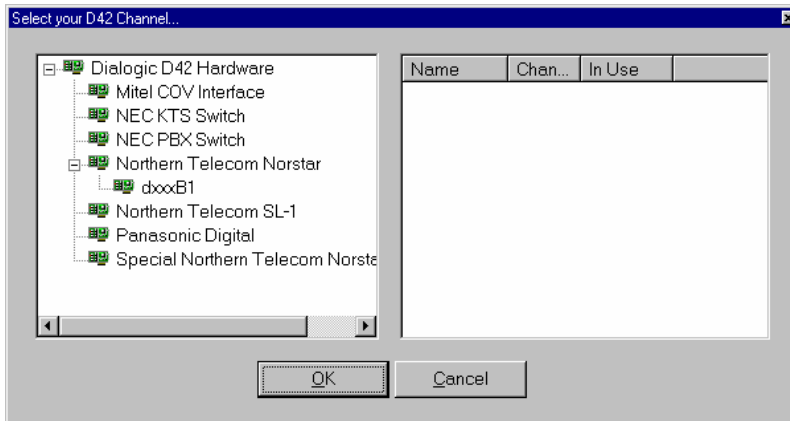

Figure 23. Select Your D/42 Channel
11. From the **File** menu, choose **Open**. The *Select Your D42 Channel* window displays, as shown in Figure 23.